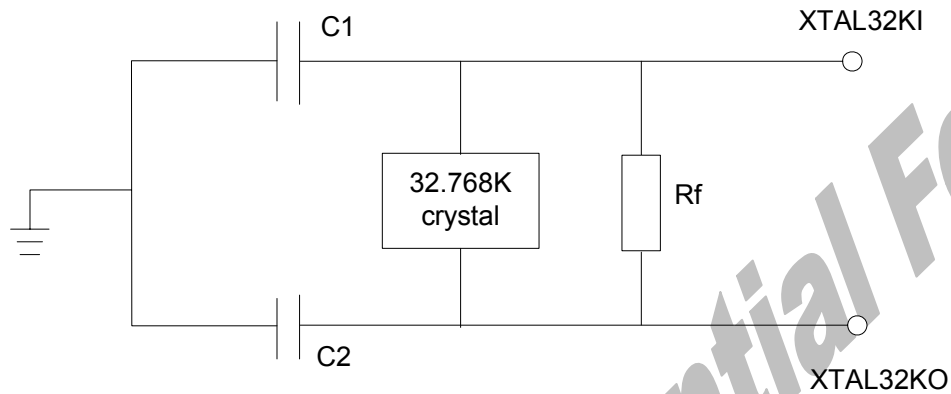

Figure 3-6 A Typical Connection Between XTAL32KI and XTAL32KO
10. The external connection of the pins XTAL32KI and XTAL32KO is quite strict. Figure 3-6 gives a typical connection; and Table 3-3 recommends the values of critical parameters.